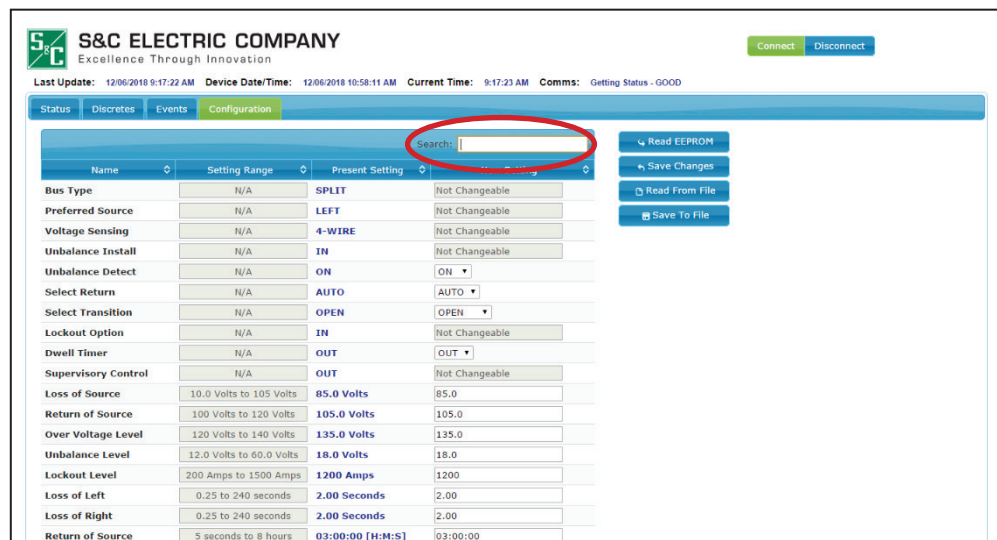

Figure 17. The Search field.
STEP 1. Find the desired setting fields by scrolling down the screen or by using the Search field at the top of the screen. See Figure 17.
STEP 1. Find the desired setting fields by scrolling down the screen or by using the **Search** field at the top of the screen. See Figure 17 on page 20.